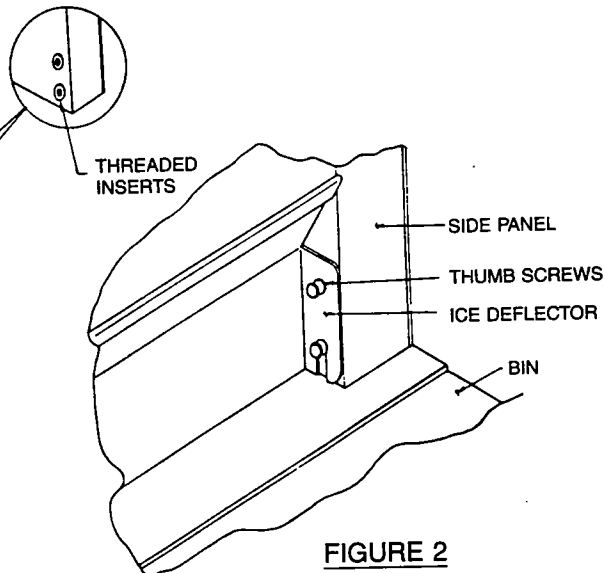

FIGURE 2
- c. Install the ice deflector over these screws as per figure 2. Install the two screws in the top mounting holes and securely tighten all four screws.